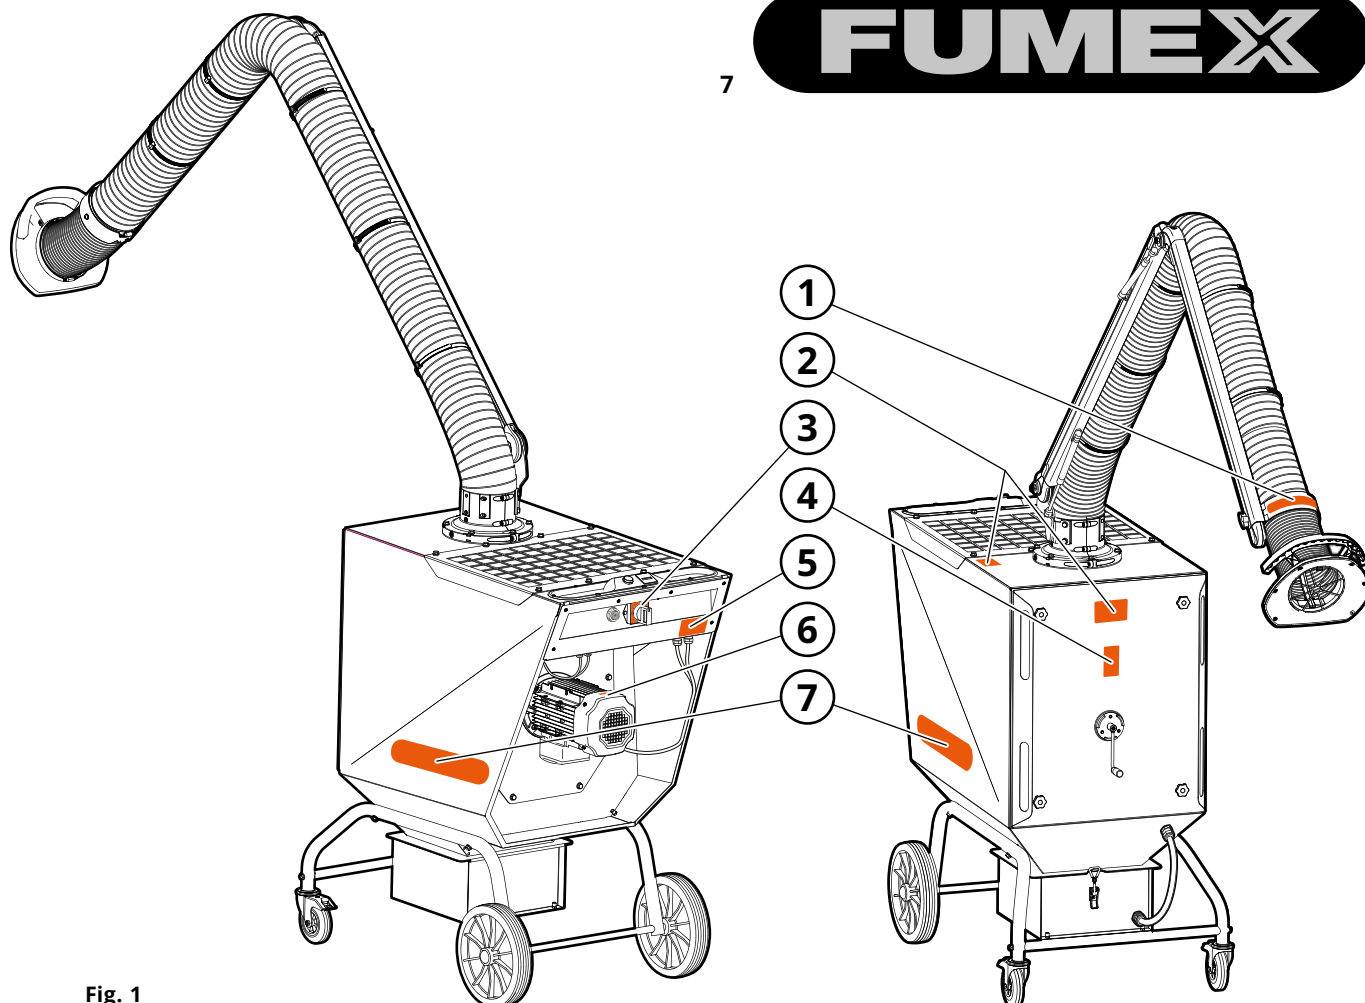
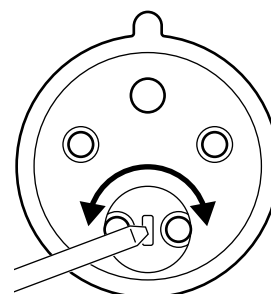

Fig. 1
Fig. 16
According to Fig. 1.
3. Check the rotational direction of the fan motor. The fan motor rotation direction is checked by starting the fan, then stopping the fan. When the speed decreases, you can see which way your engine rotates through the hood for the fan cooling (where the decal is located, according to **Fig. 1** pos. 6). If the direction of rotation is incorrect, use a flat screwdriver to reverse the phase on the plug as shown in **Fig. 16**.